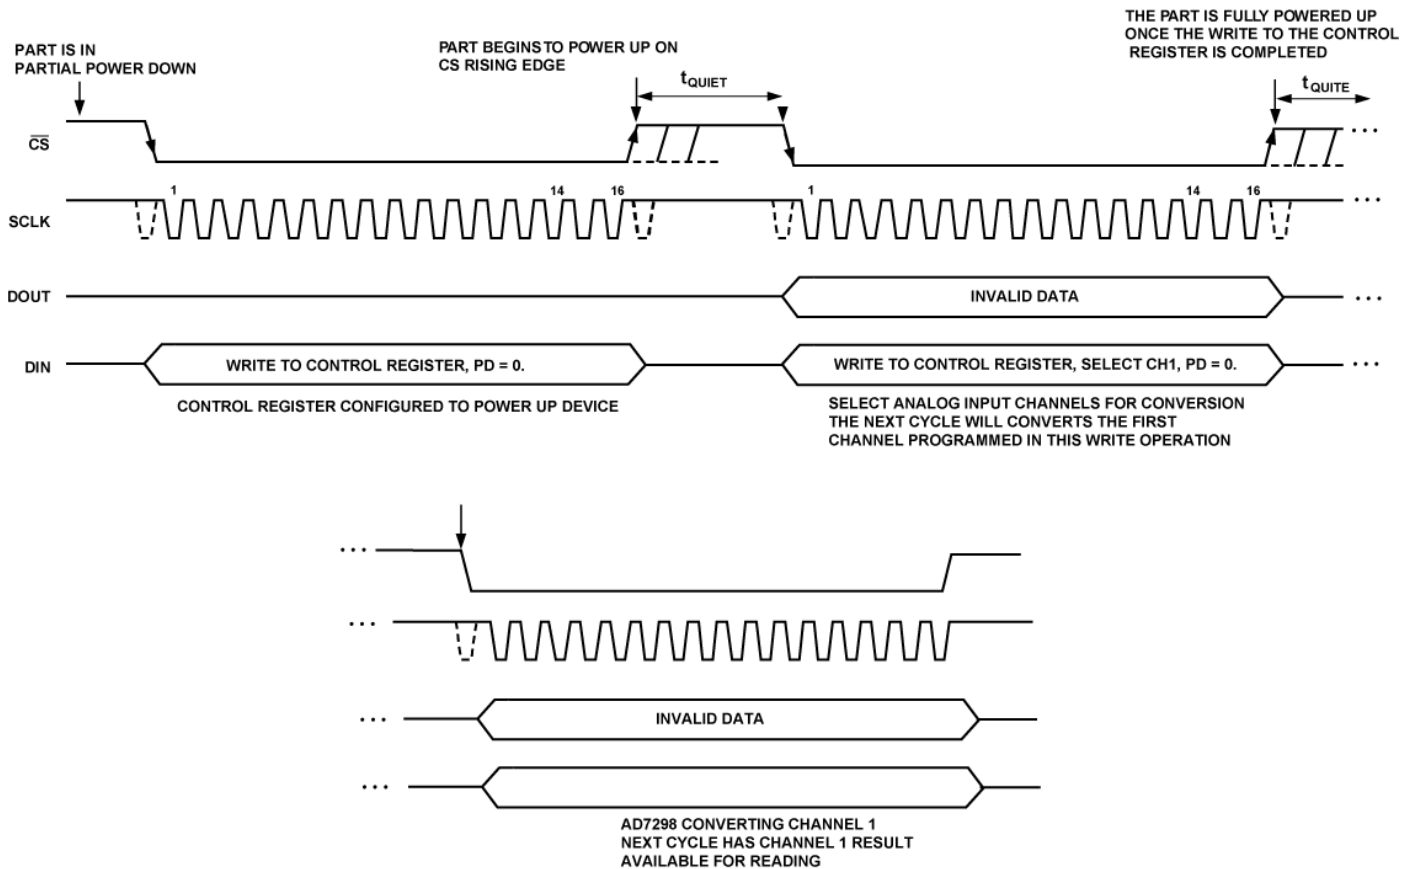

Figure 7. Partial Power Down Mode of Operation
The AD7298 remains in partial power-down until the power-down bit, PD, in the control register is changed to a logic level zero (0). The AD7298 begins powering up on the rising edge of \overline{CS} following the write to the control register disabling the power-down bit. Once T_{QUITE} has elapsed, a full 16-SCLK write to the control register must be completed to update its content with the desired channel configuration for the subsequent conversion. A valid conversion is then initiated on the next \overline{CS} falling edge. Since the AD7298 has one cycle latency, the first conversion result after exiting partial power-down mode is available in the fourth serial transfer as shown in Figure 7; 1st cycle to update PD bit, 2nd cycle to update configuration and Channel ID bits, 3rd to complete conversion, 4th access D_{OUT} valid result. The use of this mode enables a reduction in the overall power consumption of the device.